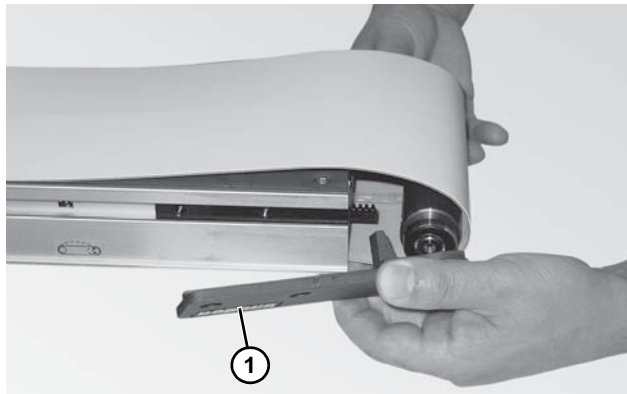

Figure 46
2. Place the head plate (**Figure 46, item 1**) and attach the head plate to the conveyor frame with the two (2) screws removed and hand tighten.